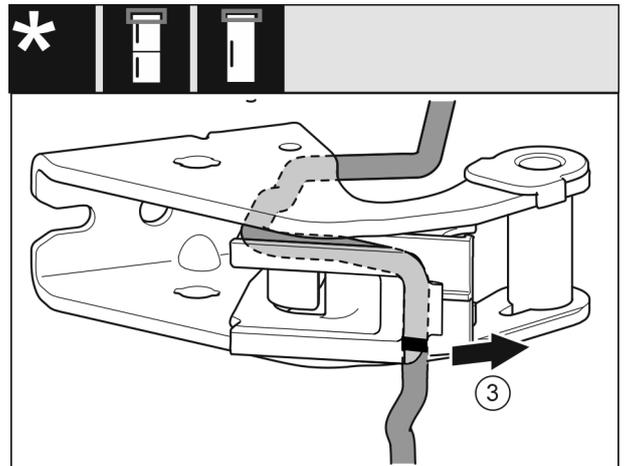

Fig. 18
- ▶ Remove the cable with the cable holder from the swap bearing block. Fig. 18 (3)